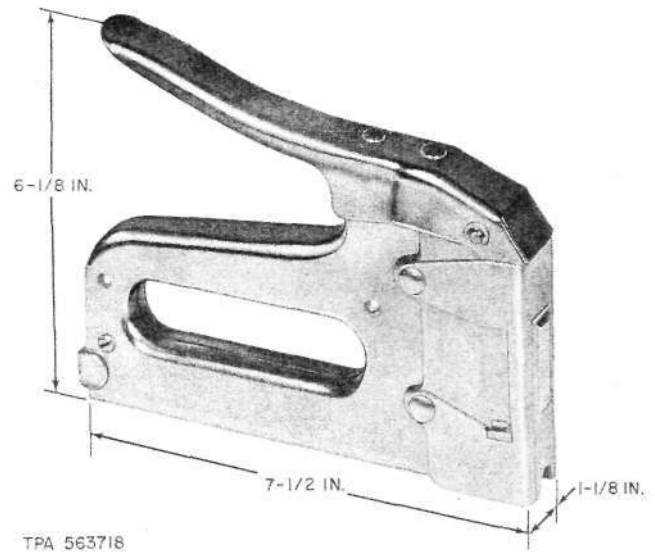
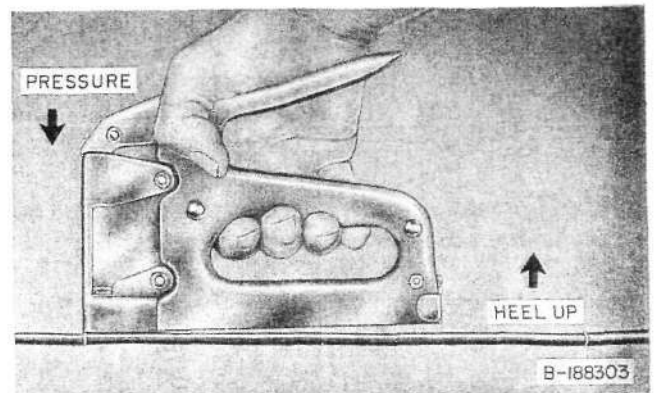

Fig. 1—D-Stapler
Fig. 2—Holding Position For D-Stapler
2.02 The D Stapler (Fig. 1) contains a spring driven hammer which is actuated by depressing the operating handle (Fig. 2). A new staple is automatically fed into position by the pusher rod after each operation.
2.05 To drive a staple, place the stapler squarely over the cable and hold it firmly against the surface into which the staple is to be driven. Depress the handle. Pressure is maintained at the hammer end of the stapler during the driving operation (Fig. 2). After this, a new staple will move into position for the next operation.